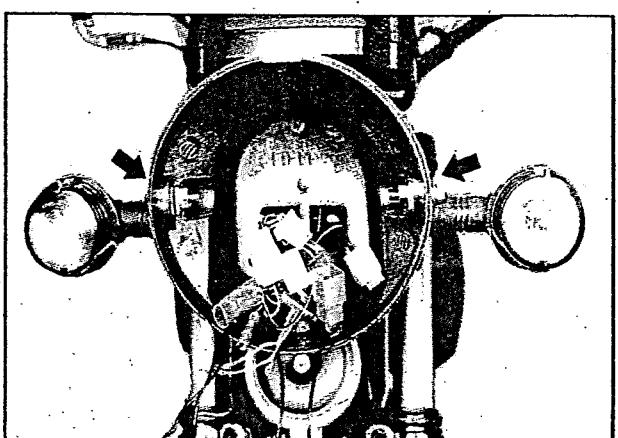

Fig 6.40
- Remove the headlight mounting bolts (fig 6.40)